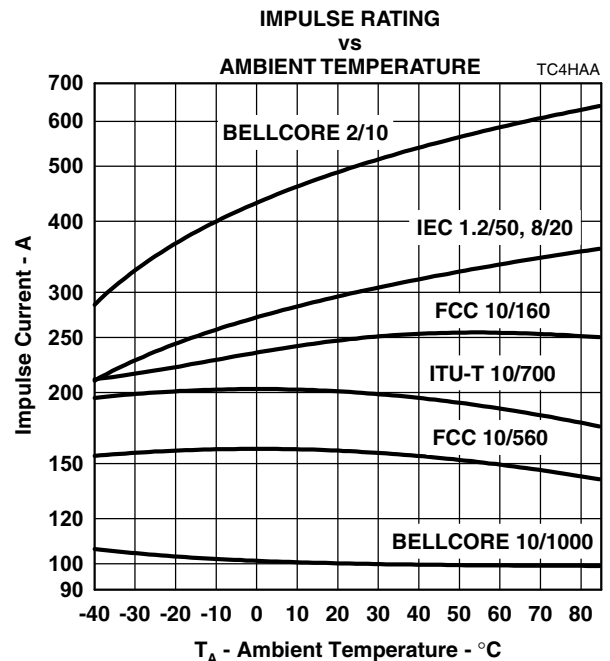

Figure 10.
4. See Applications Information and Figure 10 for current ratings at other temperatures.
If the impulse generator current exceeds the protector's current rating, then a series resistance can be used to reduce the current to the protector's rated value to prevent possible failure. The required value of series resistance for a given waveform is given by the following calculations. First, the minimum total circuit impedance is found by dividing the impulse generator's peak voltage by the protector's rated current. The impulse generator's fictive impedance (generator's peak voltage divided by peak short circuit current) is then subtracted from the minimum total circuit impedance to give the required value of series resistance. In some cases, the equipment will require verification over a temperature range. By using the rated waveform values from Figure 10, the appropriate series resistor value can be calculated for ambient temperatures in the range of -40 °C to 85 °C.